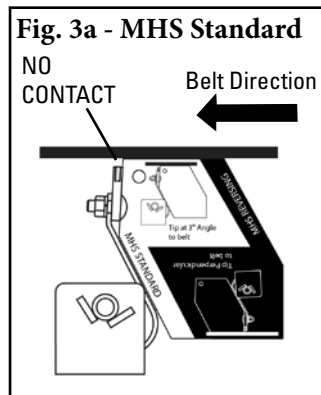
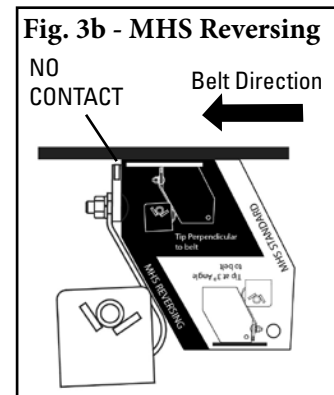

Fig. 3a - MHS Standard
Fig. 3b - MHS Reversing
3. **Set the blade angle.** Center the pole/blades on the belt. **For MHS Standard:** Rotate the pole until the tips align with the white “MHS Standard” side of the tip setup gauge provided (Fig. 3a). **For MHS Reversing:** Rotate the pole until the tips are perpendicular to the belt, using the black “MHS Reversing” side of the tip setup gauge provided (Fig. 3b). Tighten the two locking bolts on each torsion pole mount to lock the pole in place (Fig. 3c). There should be no blade-to-belt contact while locking the pole in the correct position. If contact occurs, double check the dimension from Step 1.
3. **Set the blade angle.** Center the pole/blades on the belt. **For MHS Standard:** Rotate the pole until the tips align with the white “MHS Standard” side of the tip setup gauge provided (Fig. 3a). **For MHS Reversing:** Rotate the pole until the tips are perpendicular to the belt, using the black “MHS Reversing” side of the tip setup gauge provided (Fig. 3b). Tighten the pole clamp bolt on each pole mount to lock the pole in place. There should be no blade-to-belt contact while locking the pole in the correct position. If contact occurs, double check the dimension from Step 1.